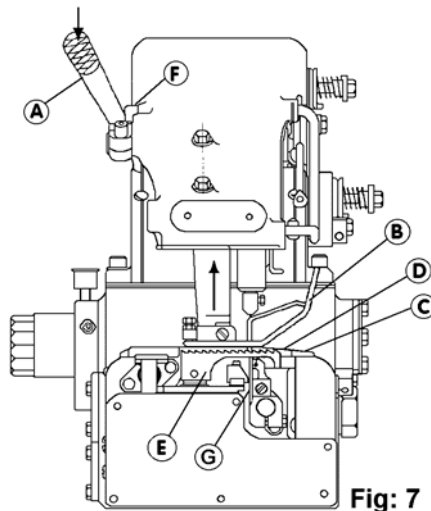

Fig: 7
Proceed as follows to turn over the knife blades (see Fig: 7 and 8).
1. Refer to Fig: 7. Lock out compressed air and electrical power so the machine can not run.
2. Press lever (A) toward the oil pressure gauge (I). This will move the presser foot (B) upward and away from the throat plate (D).
3. Put a 6 mm spacer between lever (A) and screw (F).